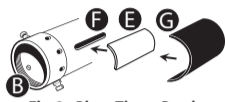

Fig. 3 - Place Tissue Patch and Flesh Pad
3. Place gel-like tissue patch **E** on body **B** surface, and center lengthwise over decompression slot **F** (Fig. 3).
4. Place foam flesh pad **G** over tissue patch **E**, and center in recessed middle section of body **B**. (Fig. 3).